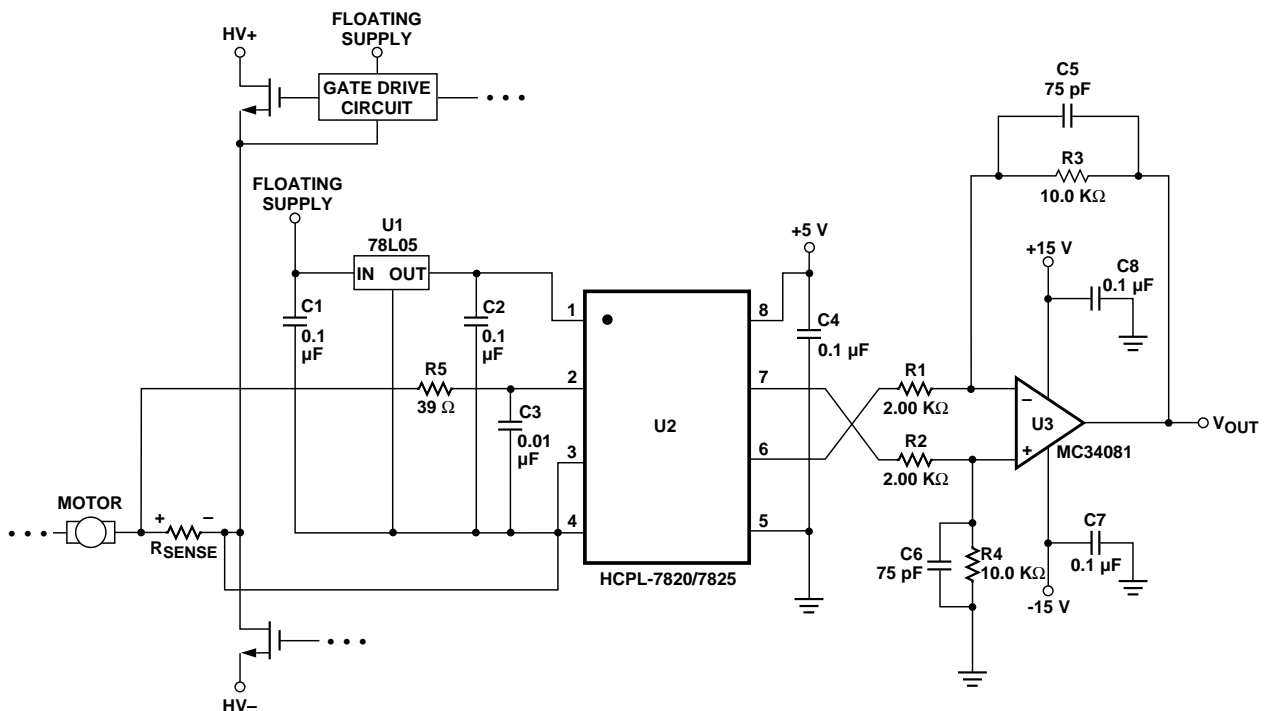

Figure 24. Recommended Application Circuit.
9. IMR (also known as CMR or Common Mode Rejection) specifies the minimum rate of rise of an isolation mode noise signal at which small output perturbations begin to appear. These output perturbations can occur with both the rising and falling edges of the isolation mode waveform and may be of either polarity. A CMR failure is defined as a perturbation exceeding 200 mV at the output of the recommended application circuit (Figure 24). See applications section for more information on CMR.
The recommended application circuit is shown in Figure 24. A floating power supply (which in many applications could be the same supply that is used to drive the high-side power transistor) is regulated to 5 V using a simple three-terminal voltage regulator (U1). The voltage from the current sensing resistor, or shunt (R_{SENSE}), is applied to the input of
As shown in Figure 24, 0.1 μ F bypass capacitors (C2, C4) should be located as close as possible to the input and output power supply pins of the HCPL-7820/7825. The bypass capacitors are required because of the high-speed digital nature of the signals inside the isolation amplifier. A 0.01 μ F bypass capacitor (C3) is also recommended at the input pin(s) due to the switched-capacitor nature of the input circuit. The input bypass capacitor should be at least 1000 pF to maintain gain accuracy of the isolation amplifier.
Figure 24. Pin 2 (V_{IN+}) is connected to the positive terminal of the shunt resistor, while pin 3 (V_{IN-}) is shorted to pin 4 (GND1), with the power-supply return path functioning as the sense line to the negative terminal of the current shunt. This allows a single pair of wires or PC board traces to connect the isolation amplifier circuit to the shunt resistor. In some applications, however, supply currents flowing through the power-supply return path may cause offset or noise problems. In this case, better performance may be obtained by connecting pin 3 to the negative terminal of the shunt resistor separately from the power supply return path. When connected this way, both input pins should be bypassed. Whether two or three wires are used, it is
The recommended application circuit (Figure 24) includes a post-amplifier circuit that serves three functions: to reference the output signal to the desired level (usually ground), to amplify the signal to appropriate levels, and to help filter output noise. The particular op-amp used in the post-amp is not critical; however, it should have low enough offset and high enough bandwidth and slew rate so that it does not adversely affect circuit performance. The offset of the op-amp should be low relative to the output offset of the HCPL-7820/7825, or less than about 5 mV.
shown in Figure 24 form a differential amplifier with a gain of 5 and a cutoff frequency of approximately 200 kHz and were chosen as a compromise between low noise and fast response times. The overall recommended application circuit has a bandwidth of 130 kHz, a rise time of 2.6 μ s and delay to 90% of 4.2 μ s.